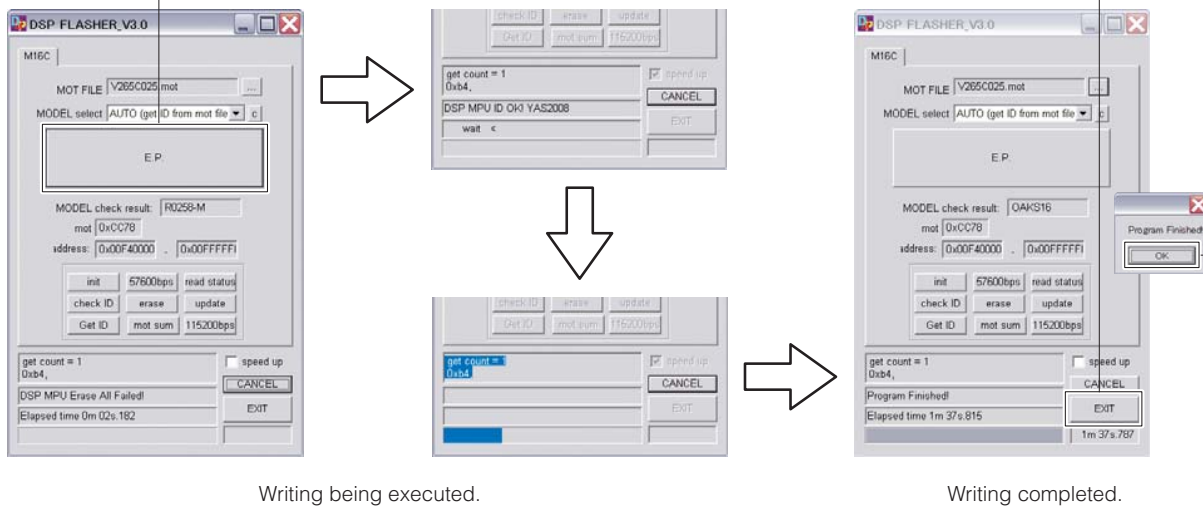

Fig. 3
4. Click [E.P.] to start writing. (Fig. 3)
5. When writing of the firmware is completed, "Program Finished!" is displayed. (Fig. 3)
Click [OK]. (Fig. 3)
6. Click [EXIT] to end DSP_FLASHER_v3.0.exe. (Fig. 3)
6. When writing of the firmware is completed, "Vx61 DSP Flash finished!" is displayed. (Fig. 3)